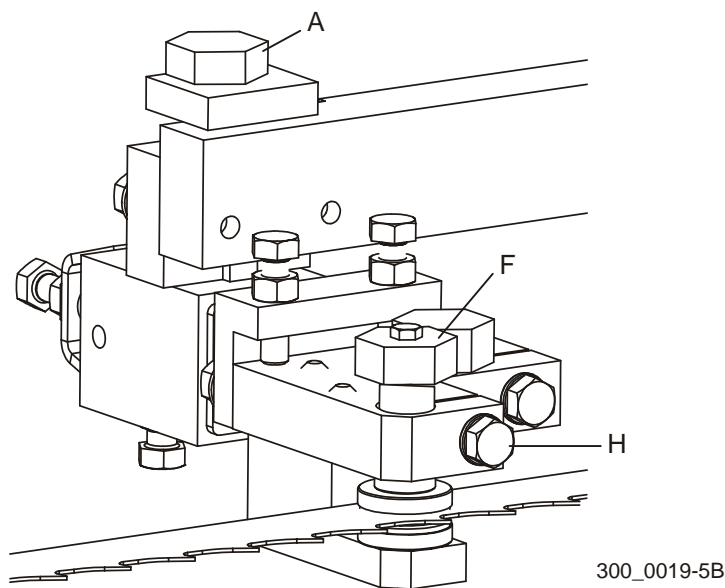

FIG. 5-40
See Figure 5-40. Use bolt (A) to adjust each blade guide assembly down, then back up so there is a slight gap between the bottom guide disks and the blade. Loosen clamp bolt (H) and turn bolt (F) clockwise to adjust the top disk down until the blade is firmly clamped between the guide disks.